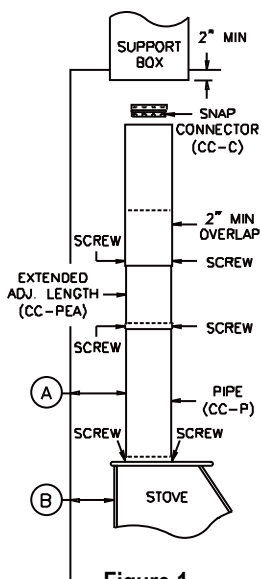
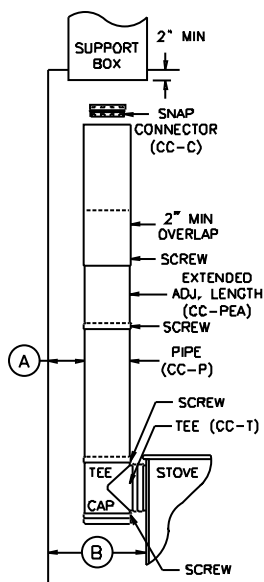
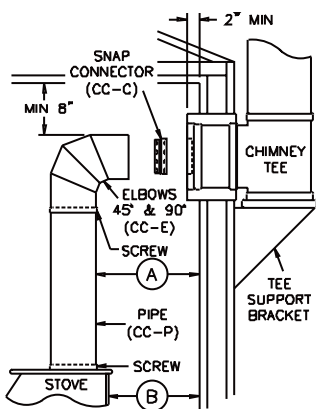

Figure 1
Figure 2
Figure 3
2. Install support box (**Figures 1 & 2**) or wall thimble (**Figures 3 & 4**) according to the installation instructions in your Dura-Plus or Dura-Chimney Kit. Note the suggestion regarding wall thimble installation under Step #4 — Through the Wall installations.
4. Vertical Installations — (**Figures 1 & 2**)
— Join the pipe, adj. or rigid; insert onto connector, then lower to stove collar (Figure 1). For **Figure 2**, installations, install tee to stove collar by drilling at least 3, 1/8" holes and screw fastening the tee to the collar. Join the pipe lengths, insert into connector (CC-C), then lower to tee (CC-R). Through-The-Wall Installations — (**Figure 3 & 4**) — use the adj. lengths of pipe (CC-PEA) when doing a through-the-wall installation, it is readily adjustable to the height of the chimney thimble. Push the connector (CC-C) into the thimble, snap elbow or pipe onto connector,